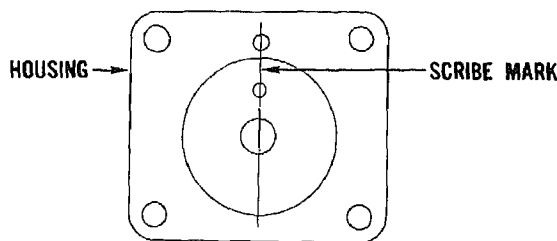

Fig. 507-9. Scribe barrel and housing for alignment
1. The aluminum housing should be lightly scribed as shown in Fig. 507-9. This will facilitate alignment of the fuel vent hole of the housing and the vent hole in the new barrel to be installed.
4. Scribe the new replacement governor barrel as shown in Fig. 507-9. Scribe line should pass through the center of the plunger bore and the center of the  $\frac{1}{8}$  in. diameter fuel hole.